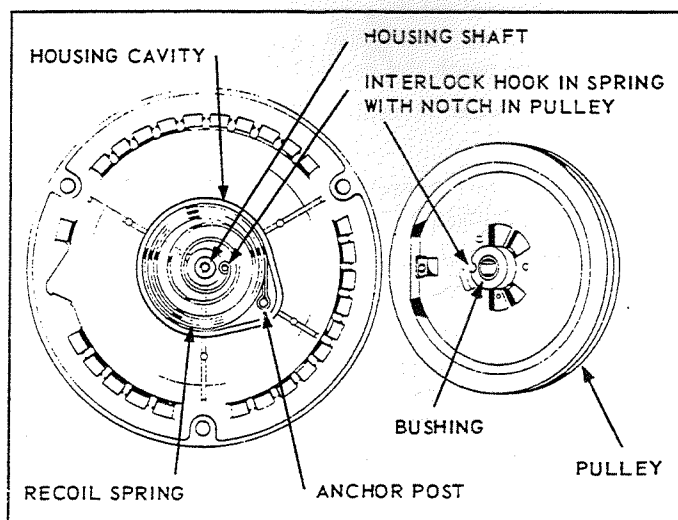

FIG. 6
Prevent recoil spring from escaping from housing by carefully lifting pulley about 1/2 inch and then detaching inside spring hook from pulley, with a screw driver. **Note:** If spring should escape, it can easily be replaced into cover by coiling in the turns. See Fig. 6, for proper direction of spring coiling. If it is necessary to remove spring, start with the inside loop and carefully pull out one loop at a time while holding back rest of turns. When replacing spring, note the position of spring hooks in Fig. 6. Engine rotation is clockwise, viewed from starter end.
**E. RECOIL SPRING REPLACEMENT, Fig. 6**
Spring holders furnished with replacement springs simplify the assembly procedure. Place *recoil spring* in proper position as shown in Fig. 6, with the outside loop hooked around the *anchor post*. Then press spring into *housing cavity* thus releasing the spring holder. A few drops of SAE 20 or 30 oil should be applied to spring and light grease on housing shaft.
**F. ASSEMBLY of PULLEY, Fig. 6**